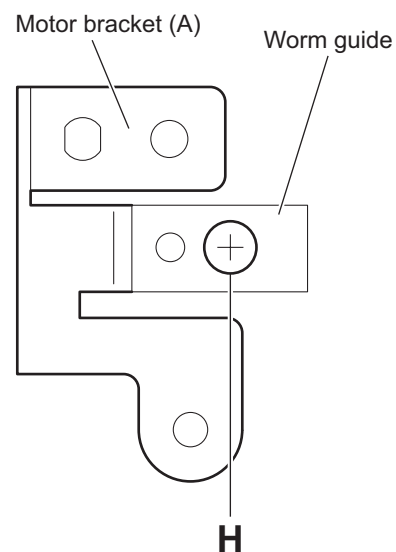

Fig.15
- (6) Remove the screw **H** attaching the worm guide to the motor bracket (A). (See Fig.15.)